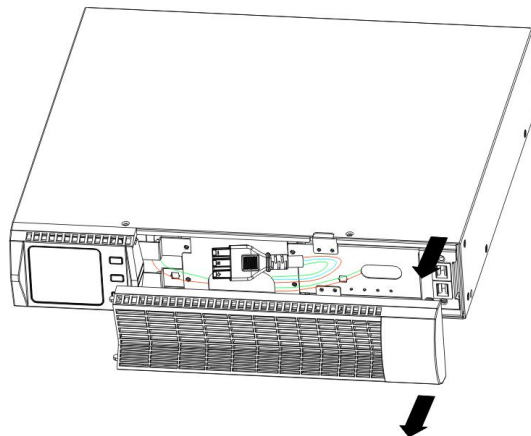

FIG.10 Removing the EBP Front Cover
1. Remove the front cover of each EBP and UPS (see FIG. 10).